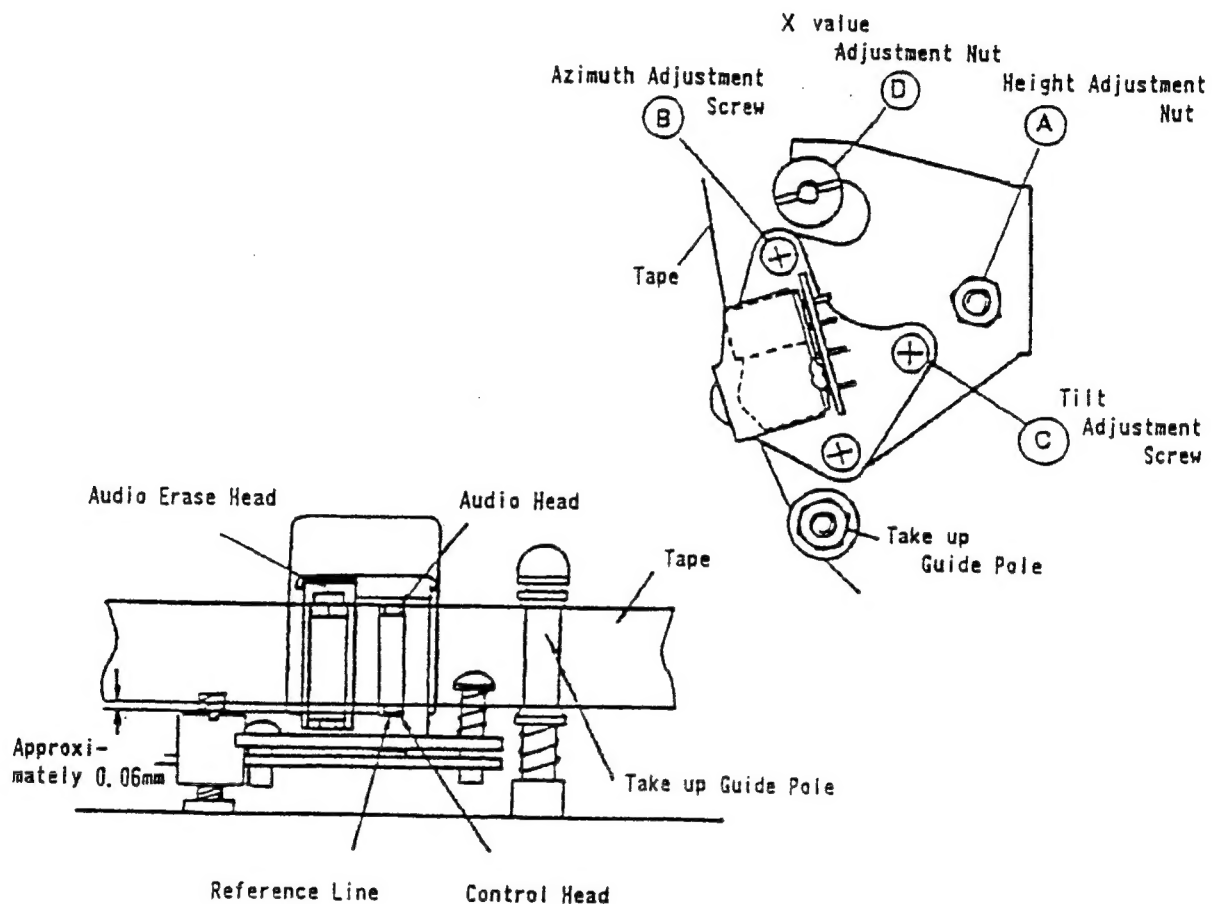

Fig. 2-7
2. Adjust the height of the edge of the audio track on the audio control head by using the height adjustment nut (A) and the tilt adjustment screw (C) so that the tape transport is smooth at the take-up guide pole. Align the audio control head height. (Refer to Fig. 2-7.)
2. Confirm that the tape running between the take-up guide roller and the audio control erase head has no slack. If the tape has slack, take it up by turning the tilt adjustment screw Ⓔ. (Refer to Fig. 2-7.) Then readjust GUIDE ROLLER HEIGHT in section 2-2 and the X value in section 2-4.
3. After confirming on the oscilloscope that a 1 kHz audio signal is being output by playing back F6-A test tape, adjust the height adjustment nut Ⓕ so that the AC voltmeter's reading is brought to its maximum level. (Refer to Fig. 2-7.)
4. Adjust the azimuth adjustment screw Ⓖ so that the AC voltmeter's reading is brought to its maximum level. (Refer to Fig. 2-7.)
1. After confirming on the oscilloscope that an audio signal is being output by playing back F6-N test tape, adjust the azimuth adjustment screw ④ so that the AC voltmeter's reading or oscilloscope waveform is brought to its maximum level (Refer to Fig. 2-7).
Note: Fix the screw ④ with lock paint after readjustment (Refer to Fig. 2-7).